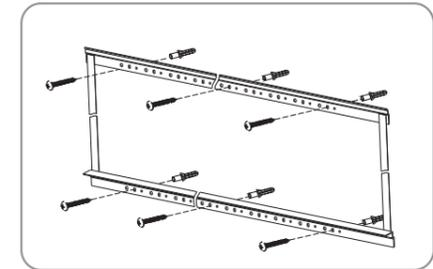

figure 12
- b. Concrete wall installation: drill six proper holes on the concrete wall with electric drill, then fix the top and low bracket on the wall using the  $\phi 5 \times 40$ mm tapping screw and then fasten with the anchor (3 screws on each bracket) (figure 12).